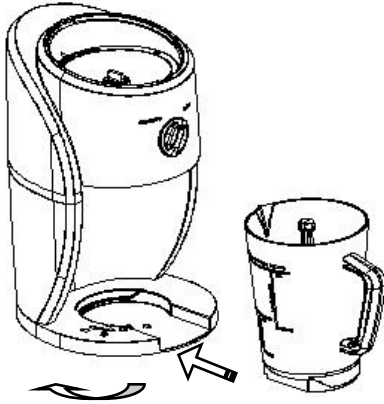

Figure 3
1. Slide Bowl into groove on main body and turn clockwise until it stops. This will allow the Mixing Paddle to mix ice and ingredients once operation begins. (Figure 3)